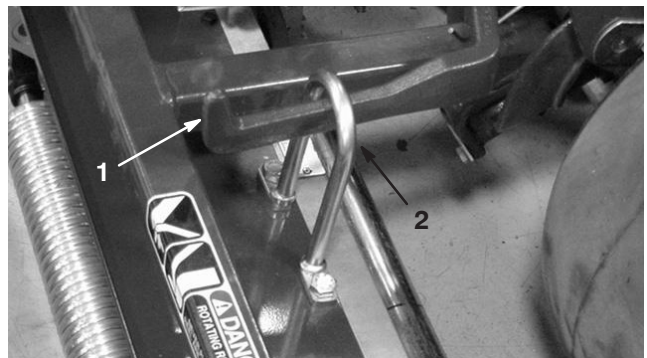

Figure 9
3. Slide the cutting unit under the pull frame while hooking the lift hook onto the lift arm (Fig. 9).